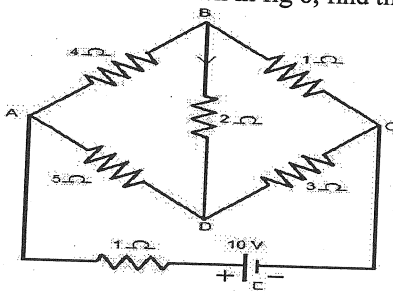

Fig.7
5. In the circuit shown in Fig7, determine the current through the 2 ohm resistor and the total current delivered by the battery. Use Kirchoff's laws.